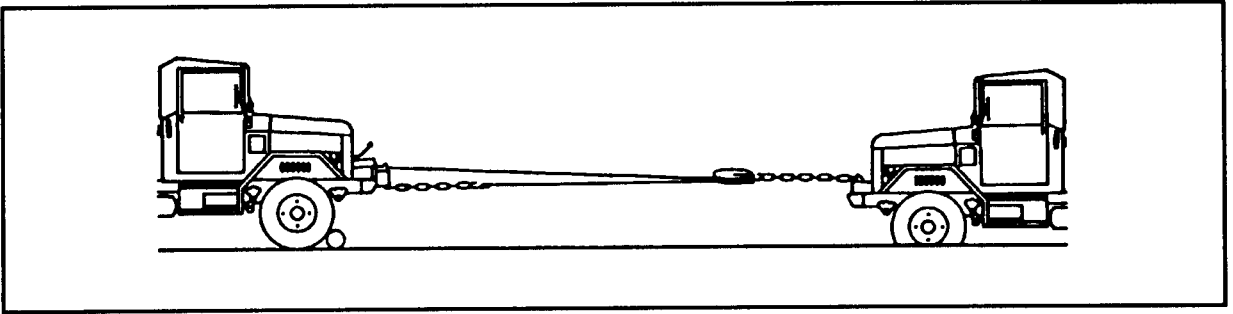

FIGURE 22-6. Two-Part Line.
*Two-Part Line.* This simple hookup gives a 2:1 mechanical advantage (Figure 22-6). Attach a snatch block to the load. Next, run your winch cable through the block and secure the cable to the winch vehicle. Place a log in front of the towing vehicle to help hold its ground.